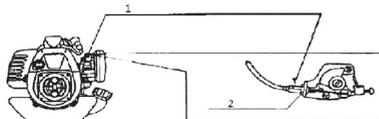

Fig. 6
- Accelerator cable regulator (Fig.6):